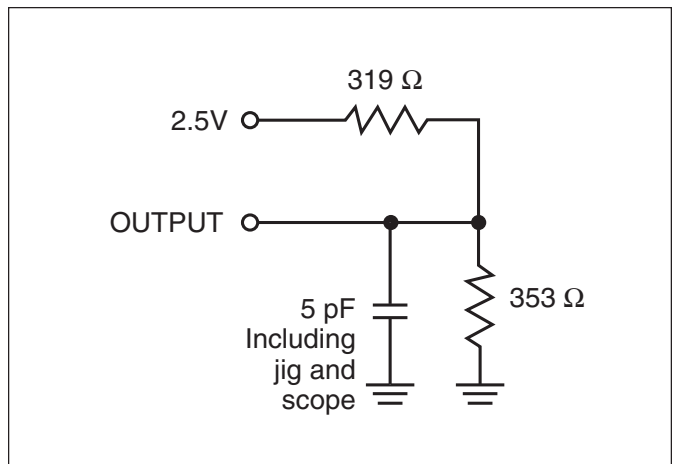

Figure 1b.
2. Tested with the loading specified in Figure 1b. Transition is measured ±500 mV from steady-state voltage. Not 100% tested.